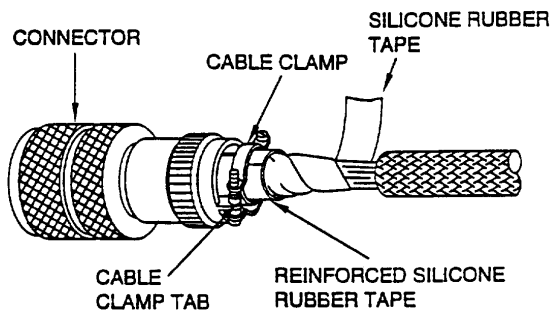

Figure 41. Accessory Tape Wrapping
j. Wrap 1 to 2 turns of non-adhesive rubber tape over exposed wires and buildup layers of rubber tape near cable clamp (Figure 41).